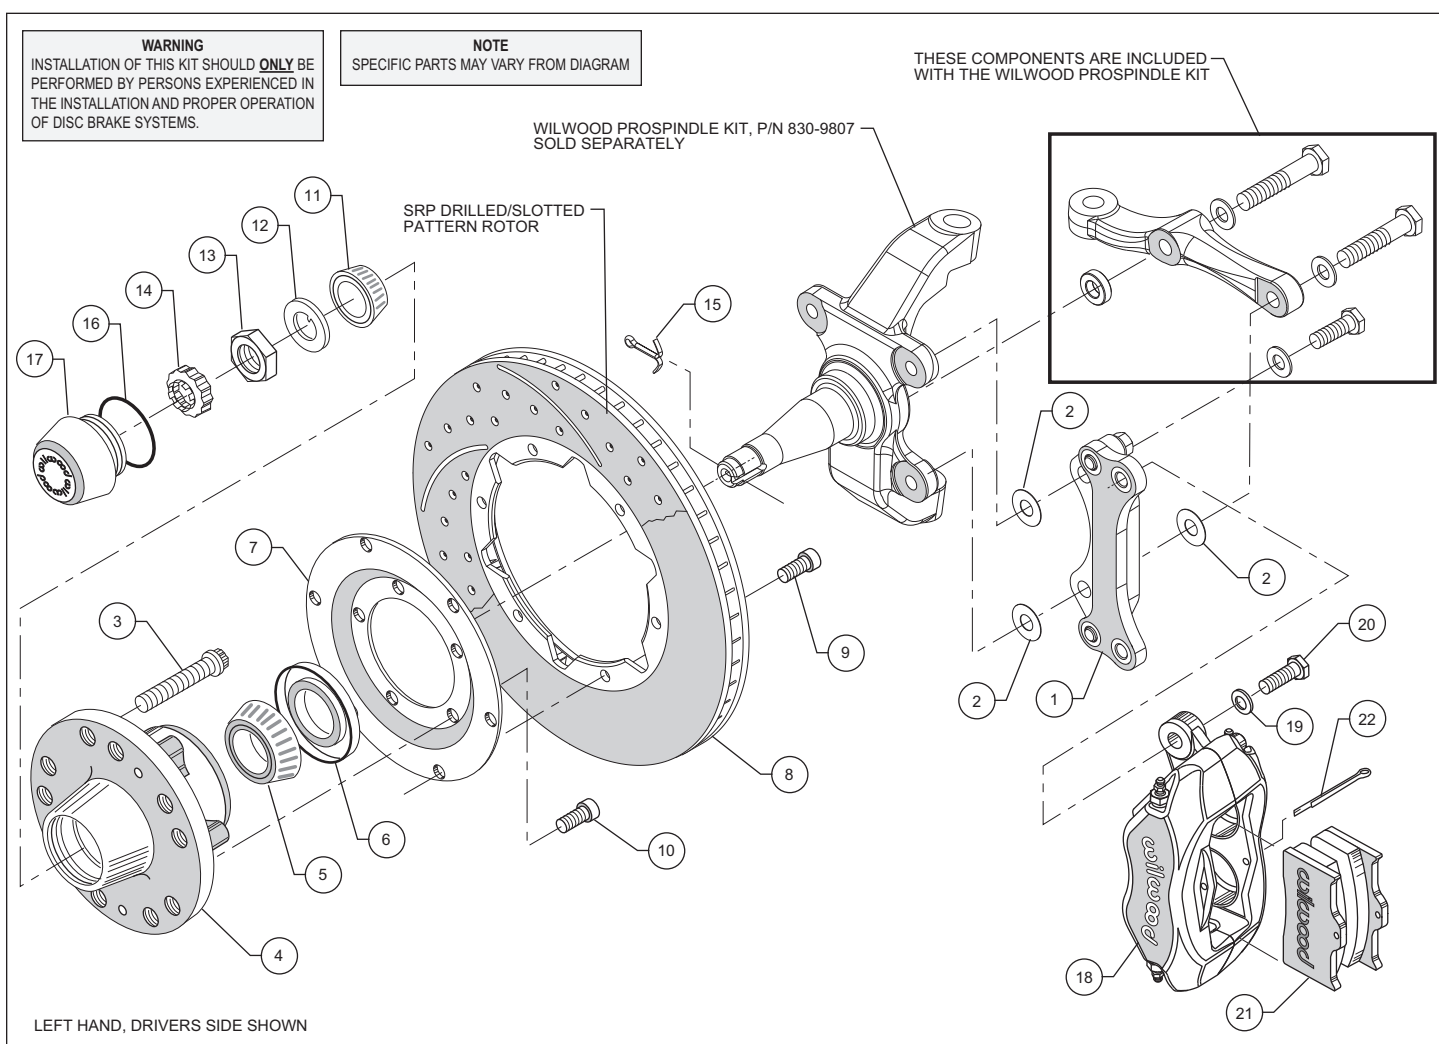
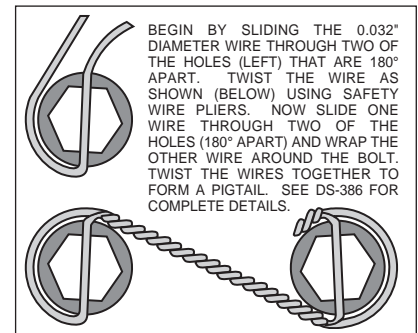

Figure 1. Typical Installation Configuration
Figure 3. Safety Wire Diagram
•Install wheel studs (3) into the hub (4). Torque to 77 ft-lb. **NOTE:** There are two lug patterns of five holes each in the hub (5 x 4.50 and 5 x 4.75). Make sure of the correct hole pattern for the wheel application before installing the studs into the hub.
•Attach rotor adapter plate (7) to rotor (8) using bolts (9) as per the configuration pictured in figure 1. Torque bolts (9) to 180 in-lb. Safety wire bolts (9) using standard 0.032 inch diameter stainless steel safety wire as shown in Figure 3. Please refer to Wilwood's data sheet DS-386 (available at [www.wilwood.com/pdf/ds386.pdf](http://www.wilwood.com/pdf/ds386.pdf)) for complete safety wire installation instructions. **NOTE:** The large inside diameter side of the rotor (8) faces toward the rotor adapter plate (7) with the dished side of the rotor adapter plate (7) facing away from the rotor (8).
•Mount the adapter/rotor assembly (7 and 8) to the hub (4) using bolts (10). Torque bolts (10) to 22 ft-lb. Safety wire bolts (10).
•Pack the large inner bearing cone (5) with high temperature disc brake bearing grease (available from your local auto parts store) and install into the backside of the hub (4).
•Install the grease seal (6) by pressing into the backside of the hub (4).
•Pack the small outer bearing cone (11) with high temperature disc brake bearing grease and install into front of hub (4). Slide the hub assembly (4, 5, and 6) with outer bearing cone (11) onto the spindle. Secure using spindle washer (12), adjusting nut (13) and nut retainer (14). secure to spindle using cotter pin (15). Adjust bearing using a 12" wrench to tighten the adjusting nut while turning the rotor. When the rotor binds slightly, all the bearing parts are seated properly. Back of the nut 1/6 to 1/4 of a turn or enough to allow 0.001 to 0.007 end play. Lock the nut with a new cotter pin. **WARNING:** Failure to back off the adjusting nut may cause the bearing to run hot and be damaged, which could cause the wheel to lock or come off during operation, creating a risk of serious bodily harm.
•Install the o-ring (16) and the dust cap (17) onto the hub (4). Friction created by the o-ring (16) on the dust cap (17) keeps it from unscrewing on its own.
•**NOTE:** Please reference the caution statement at the beginning of the assembly instructions. With the bleed screws pointing up, mount the caliper (18) onto the caliper bracket (1) using washers (19), and bolts (20). Finger tighten. View the rotor (8) through the top opening of the caliper (18). The rotor (8) should be aligned in the center of the caliper (18). If not, adjust the caliper mounting bracket (1) by using 0.016 inch thick shims (2) placed between the caliper mounting bracket (1) and the spindle, or between the spindle and the steering arm, whichever is applicable to gain the proper caliper/rotor alignment. Both the top and bottom of bracket must have the same thickness of shims between bracket and spindle. Finger tighten and recheck alignment. If everything is properly aligned, Apply red *Loctite*® 271 to the ProSpindle bolt threads and torque to 47 ft-lb. Then apply red *Loctite*® 271 to caliper mounting bolt threads (20) and torque to 30 ft-lb. Safety wire caliper bolts (20).
•Install the disc brake pads (21) and secure using cotter pin (22).